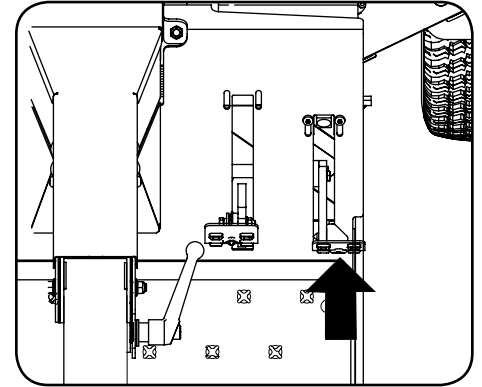

Figure 3-2
1. Slowly push the reverse drive pedal forward. The tractor will start to move in the reverse direction. See Figure 3-2.